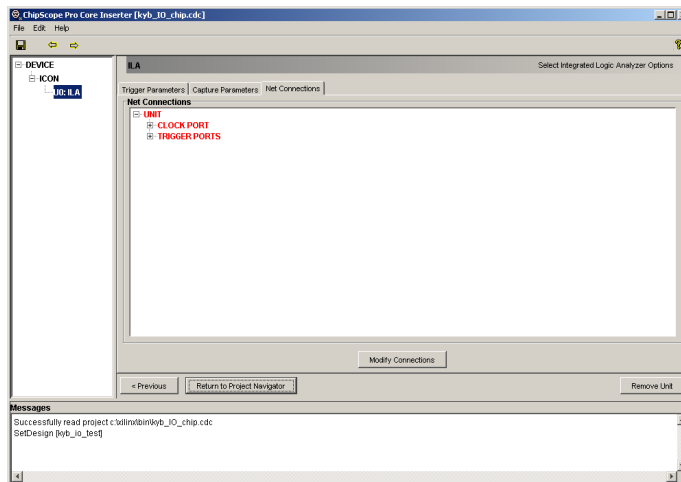

Figure 18
27. On the “Net Connection” tab click on “Modify Connections”. (Figure 18)